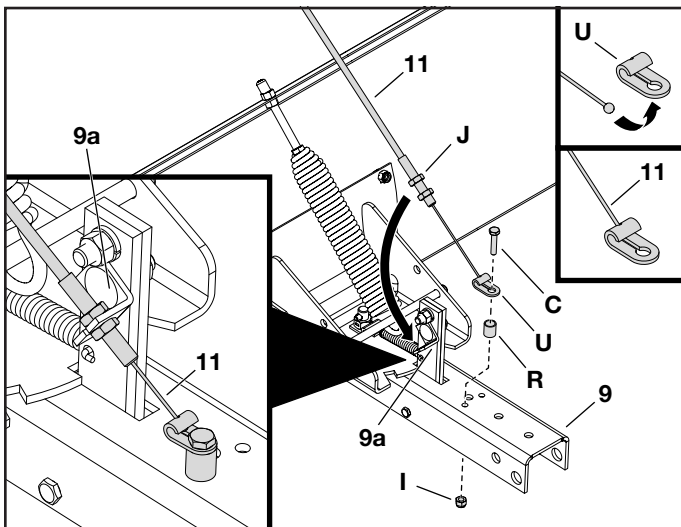

FIGURE 8
STEP 8: (SEE FIGURE 8)
- Insert the ball end of the control cable (11) into the bottom of the clevis lanyard fitting (U) and place the cable into the groove as shown.
- Place a spacer (R) onto the hole on the channel sub assembly (9) as shown; then place the clevis lanyard fitting (U) on top of the spacer (R) and secure both parts to the channel sub assembly (9) with a hex bolt (C) and hex nut (I). Tighten hardware.
- Install one 5/16" jam nut (J) approximately 3/4" onto the threaded end of the control cable that has no rubber cap or preassembled nuts.
- Insert the control cable (11) into the tab (9a) and secure with another 5/16" jam nut (J). Tighten both jam nuts (J).